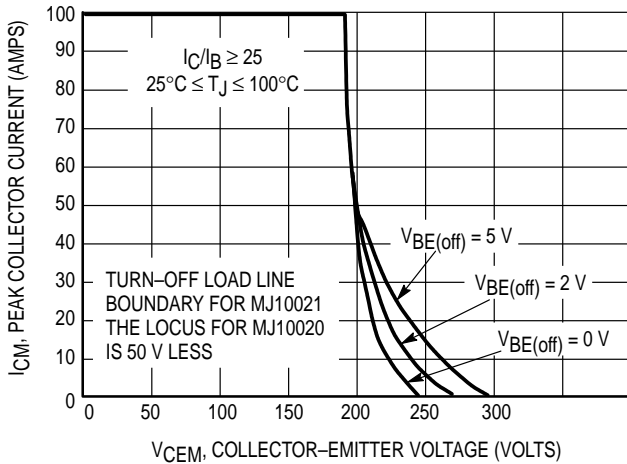

Figure 14. Maximum RBSOA, Reverse Bias Safe Operating Area
* Adjust -V such that V_{BE(off)} = 5 V except as required for RBSOA (Figure 14).
For inductive loads, high voltage and high current must be sustained simultaneously during turn-off, in most cases, with the base to emitter junction reverse biased. Under these conditions the collector voltage must be held to a safe level at or below a specific value of collector current. This can be accomplished by several means such as active clamping, RC snubbing, load line shaping, etc. The safe level for these devices is specified as Reverse Bias Safe Operating Area and represents the voltage-current condition allowable during reverse biased turn-off. This rating is verified under clamped conditions so that the device is never subjected to an avalanche mode. Figure 14 gives the RBSOA characteristics.